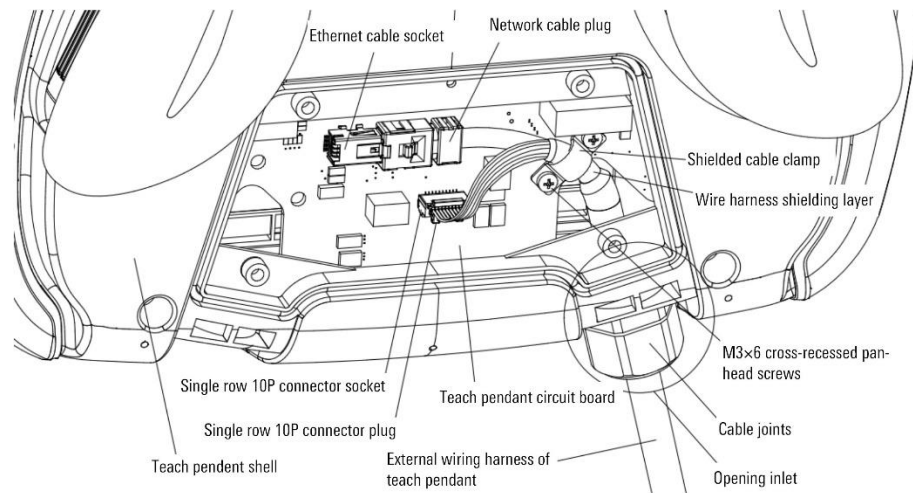

Figure 10-7 Diagram of replacing the external wiring harness of the teaching pendant 2
- Step2. Insert the external wire harness of the teach pendant through the opening on the lower right side of the teach pendant housing, clamp the cable connector in the opening, and use 2 M3×6 cross-recessed pan-head screws to press the wire harness shielding layer onto the shield clamp, refer to Figure 10-7.
- Step3. Connect the end of the external wiring harness of the teach pendant with the network cable plug to the network cable socket on the circuit board of the teach pendant. Connect the power and signal cable connectors to the single-row 10P connector socket on the circuit board of the teach pendant. Refer to Figure 10-7.